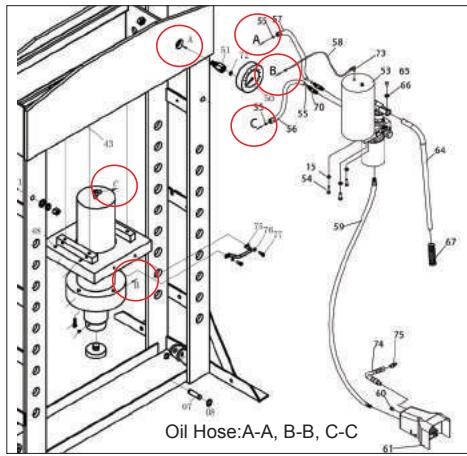
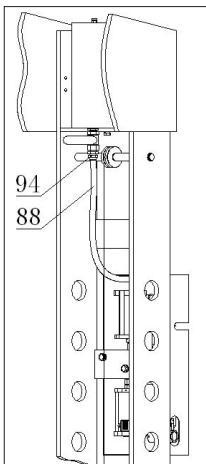
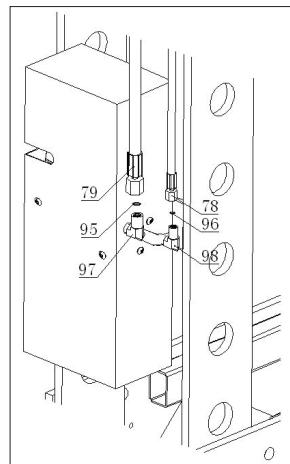

Fig.08
Fig.10
Fig.11
- Assemble oil hose :Fig.08 ( WP75P ), Fig.10 ,Fig.11 ( WP100P ).